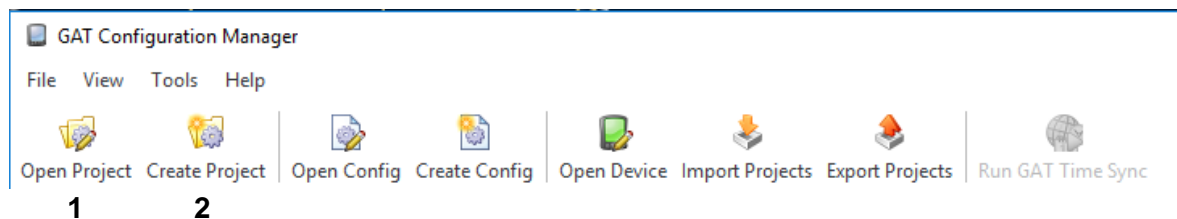

Figure 5.1 – GAT Config Manager – Project setup
- ▶ Click on the “Open Project” icon (“1” in Figure 5.1) to find an existing project.
- ▶ Alternatively, click on the “Create Project” icon (“2” in Figure 5.1) to start a new project.